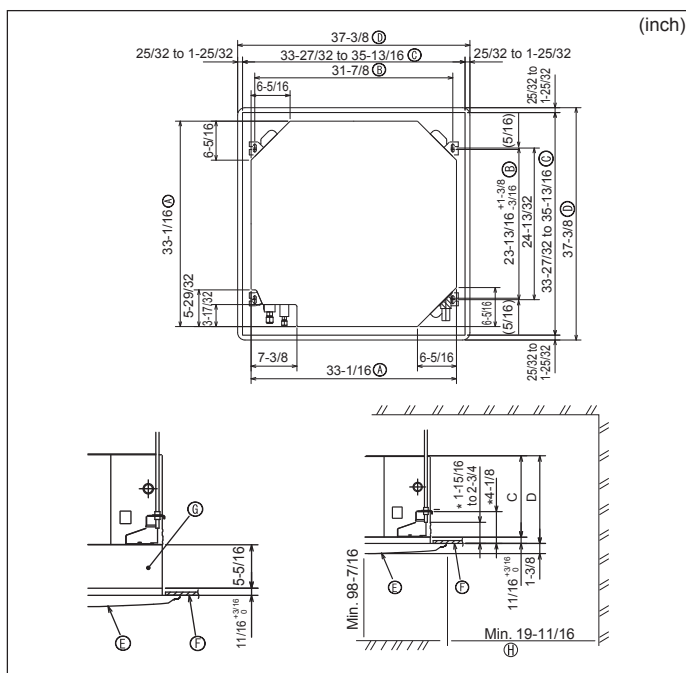

Fig. 3-2
3.2. Ceiling openings and suspension bolt installation locations (Fig. 3-2)
- The dimensions of ceiling opening can be regulated within the range shown in Fig.3-2; so center the main unit against the opening of ceiling, ensuring that the respective opposite sides on all sides of the clearance between them becomes identical.